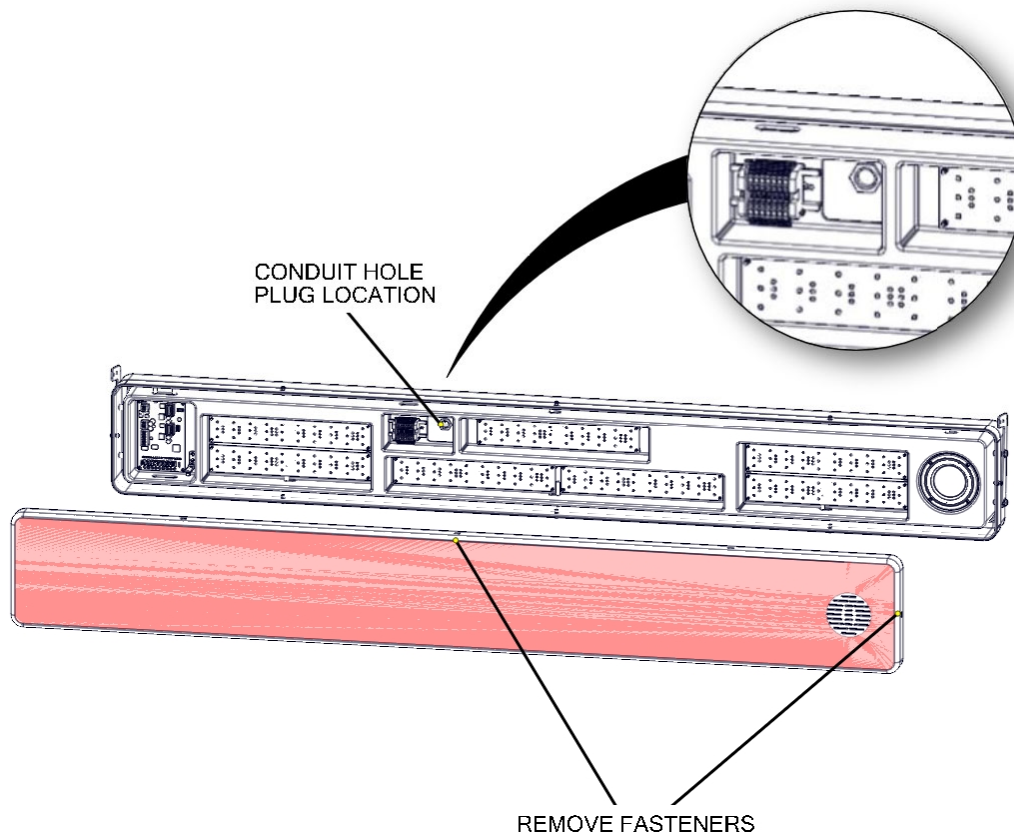

Figure 181 – Advanced Instructional Sign Preparation for Installation
- Remove the conduit hole plug located on the back of the sign base, Figure 181.